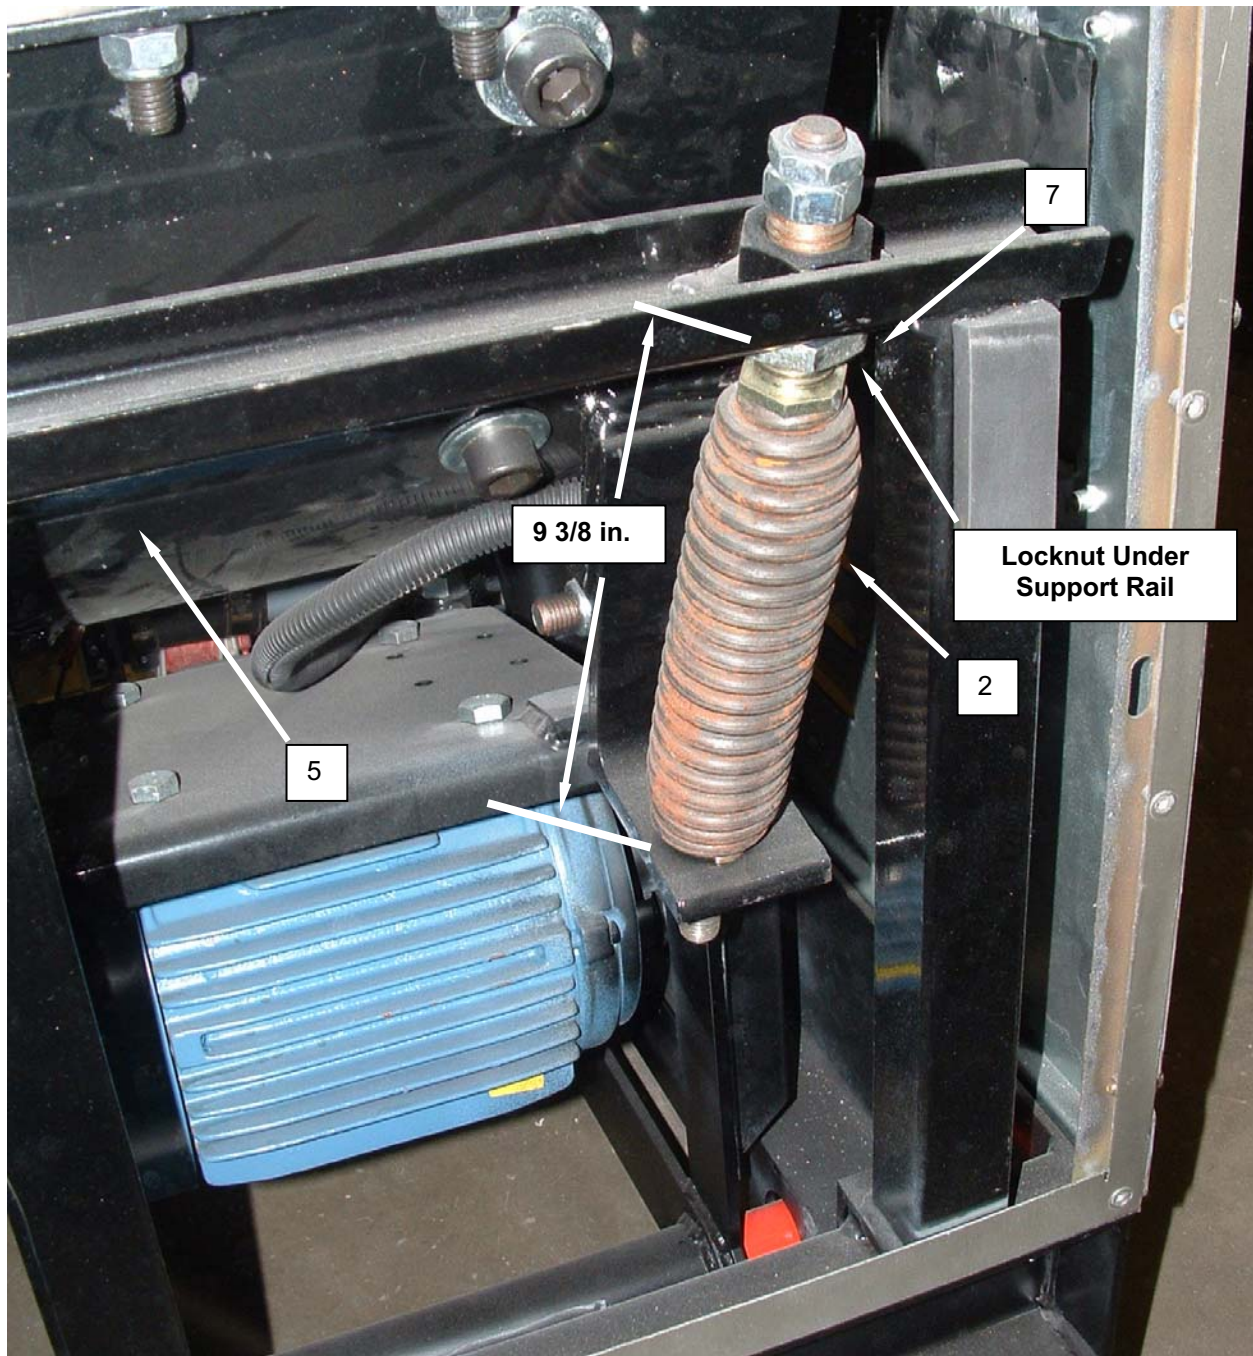

Figure 4. Replace the Washer Front Springs.
2. Support washer drum (**Figure 4, 5, Item 5**) with one shipping bracket installed on the side opposite the spring (**Figure 4, 5, Item 2**) being replaced. Refer to TM 10-3510-226-10 as necessary for information on installing the shipping brackets.
3. Remove locknuts (**Figure 4, 5, Item 7**) retaining spring (**Figure 4, 5, Item 2**), and unscrew spring.
4. Install replacement spring (**Figure 4, 5, Item 2**).